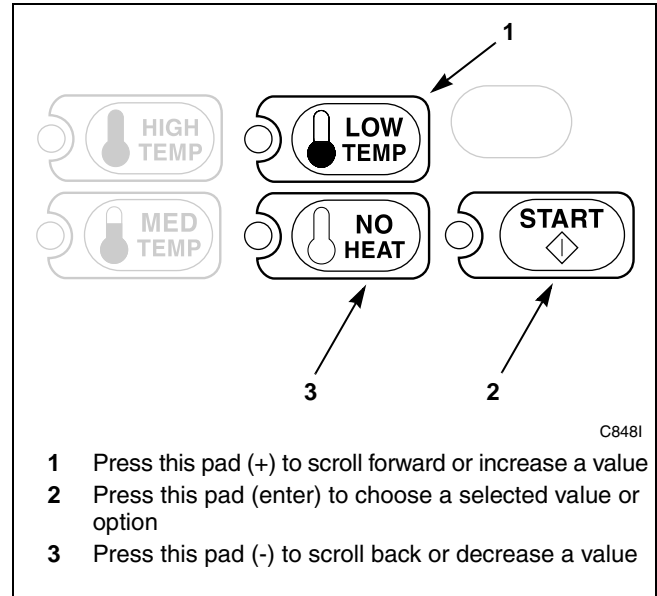

Figure 72
5. Press the LOW TEMP (+) or the NO HEAT (-) keypad to increase or decrease the current number of seconds displayed in the VFD to the desired number of seconds. Refer to *Figure 72*.
**NOTE: Special Vend A Heat Time Seconds can be set from zero (0) to 59 seconds.**